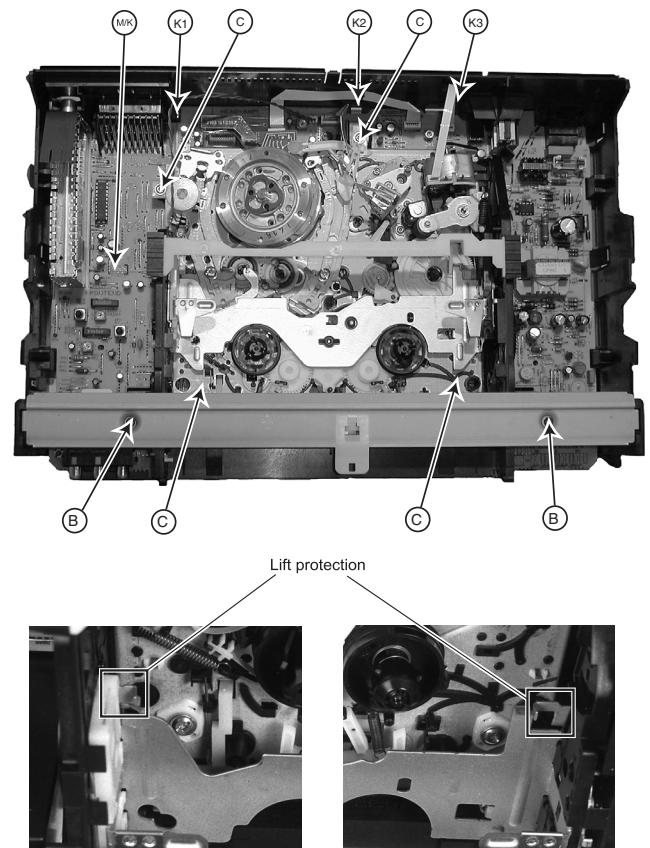

Figure 4-3
4.2 Dismantling of the motherboard/drive combination (Figure 4-3 and 4-4)
- Move device into operational position (Figure 4-3).
- Undo the two screws (B) of the stay and pull it up to remove it.
- Undo and remove the four fastening screws (C) of the drive.
- Detach the Cinch socket cable (K) and ground cable (M) from the socket print (if present).
- Undo the 8 catches (S) from the rear right to the rear front and then from the rear left to the front left.
- After the weight of the motherboard/drive unit has released it from the frame, the catch (S) at the mains socket has to be released for a second time.
4.3 Dismantling the drive (Figure 4-3, 4-5 and 4-6)